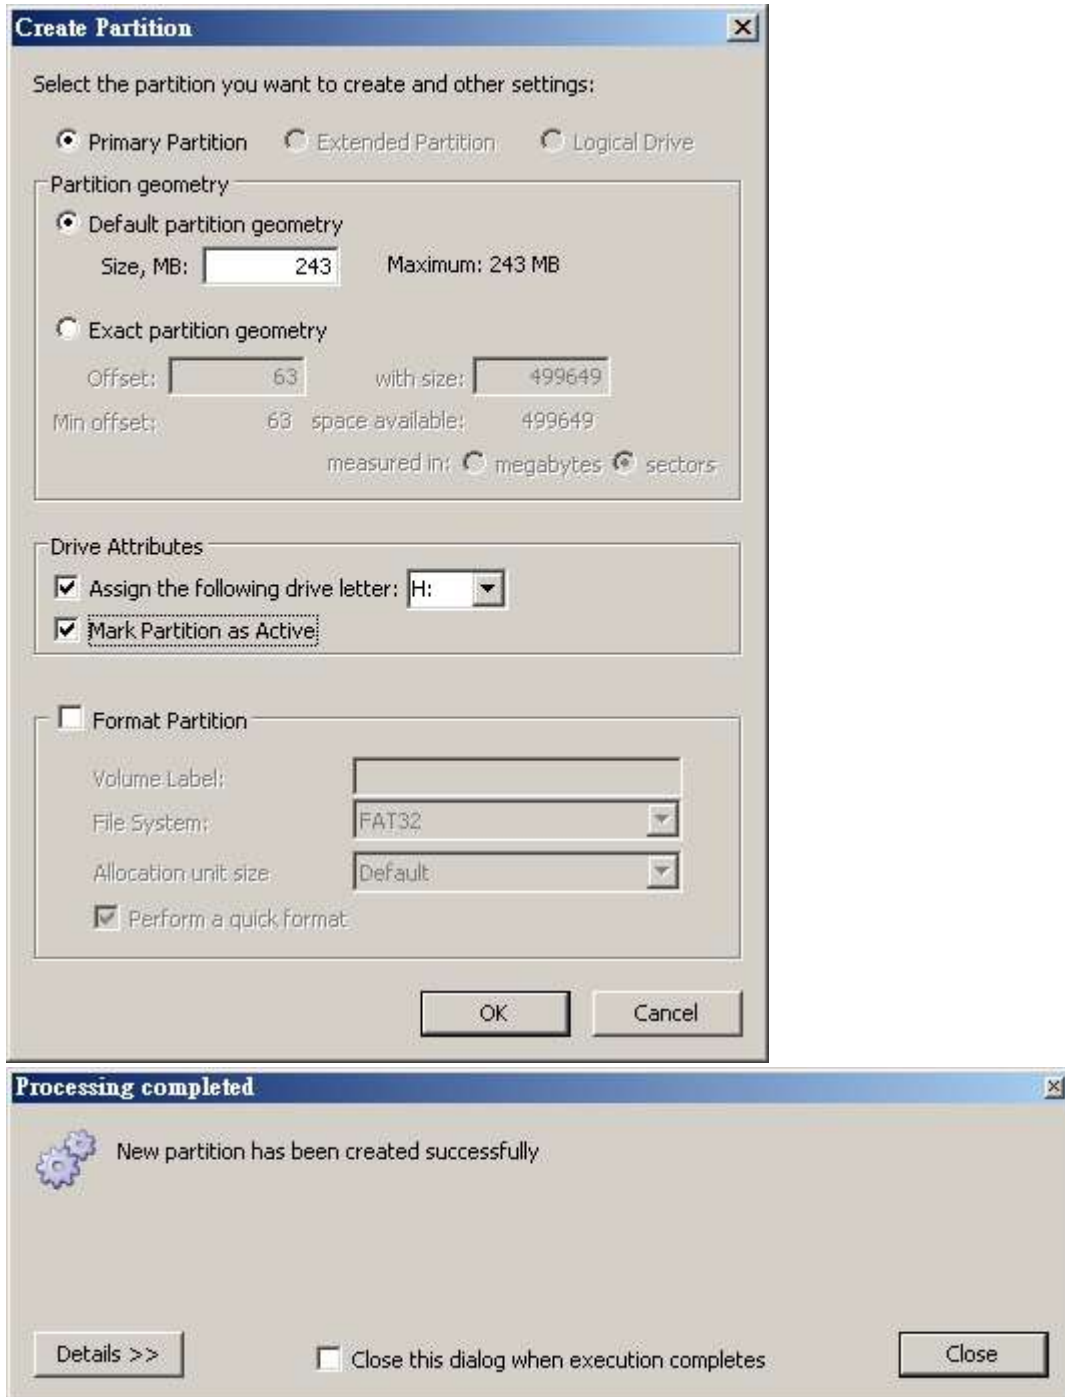

Figure 94
- In the menu mark “partition as active”, press OK, it will then show “successful” (see Figure 94)